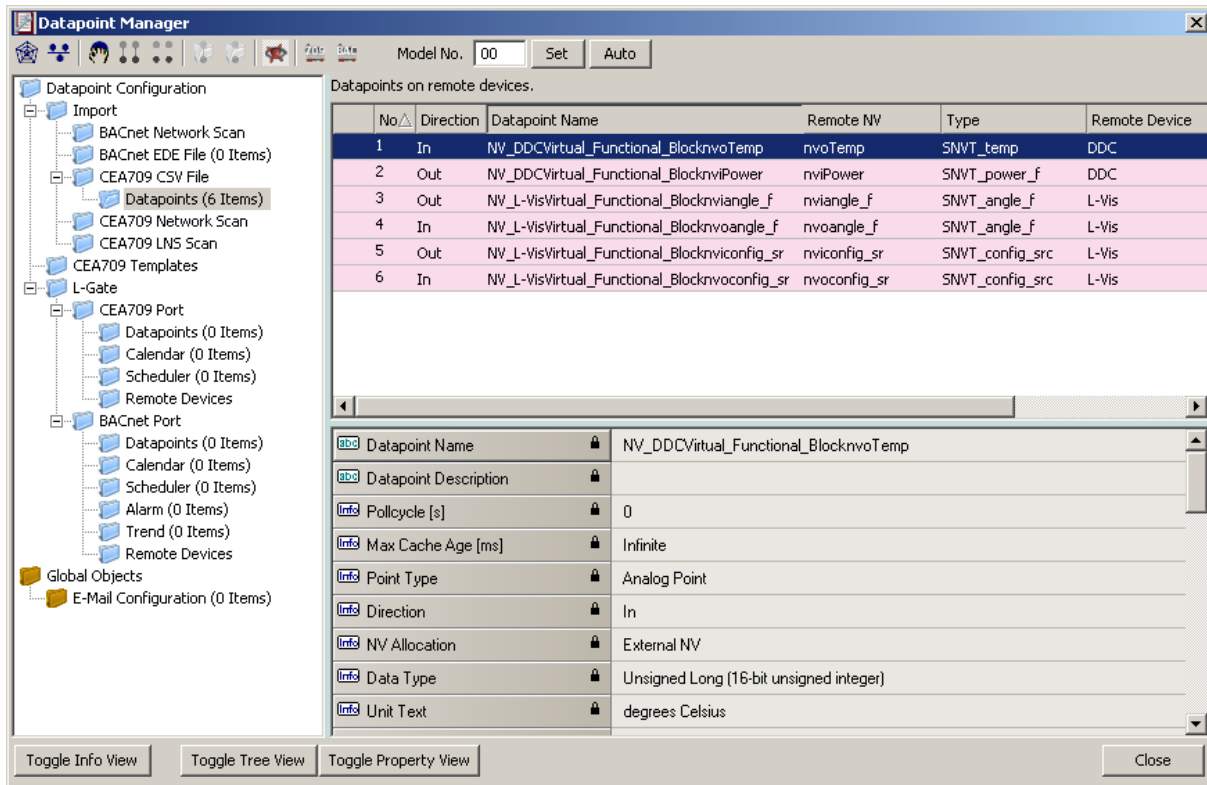

Figure 89: Imported NVs
4. Now the CSV File folder is populated with the imported NVs as shown in Figure 89.